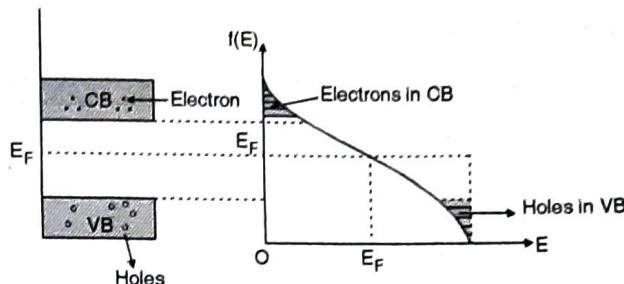

Fig. 3.5.4 : Fermi-Dirac distribution of semi conductor at $T > 0^\circ \text{K}$
- At normal temperature, a significant number of electrons are excited to conduction band (CB) and from Valence band (VB) leaving behind same number of holes.
- Therefore $f(E)$ has non-zero probability above Fermi level and $f(E)$ reduces by same amount below E_F as shown in Fig. 3.5.4.